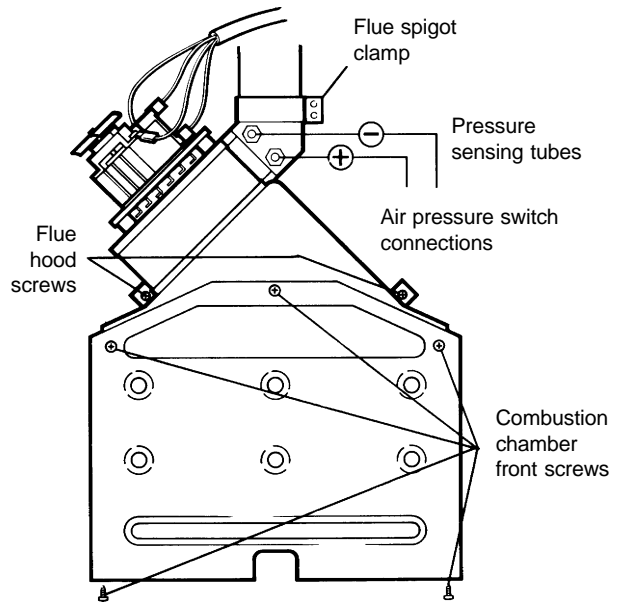

Fig. 21
8.9 FAN - Fig. 21
Alpha 240XP - Connect the fan wiring, blue to terminal 'MIN', brown to terminal 'MAX' and black to terminal 'COM'. Ensure the pressure tubes are connected correctly (see Fig. 21). (and + marked on the fan outlet), and that the bottom of the combustion chamber cover is located in the burner.